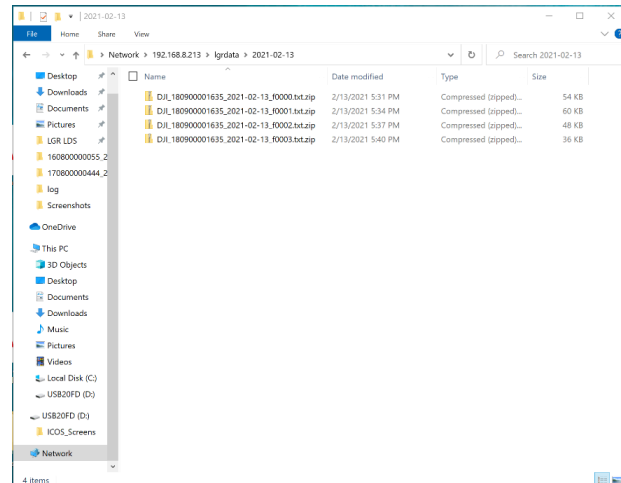

Figure 122 Windows File Explorer Window Showing Zipped Data Files
- 6 Double-click on any of the folders to show the zipped data files (Figure 122).